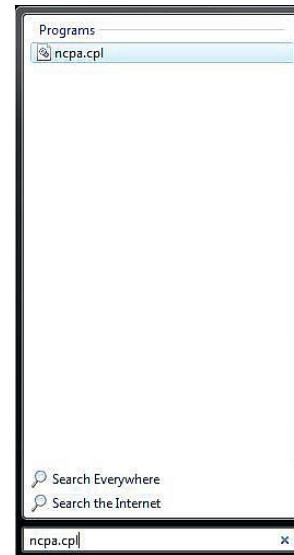

Figure 2.3a- Vista/7 Start Menu
1. Window Vista/7 – Select the Windows Icon (Start Menu) and enter ncpa.cpl into the search bar and press Enter (Figure 2.3a).